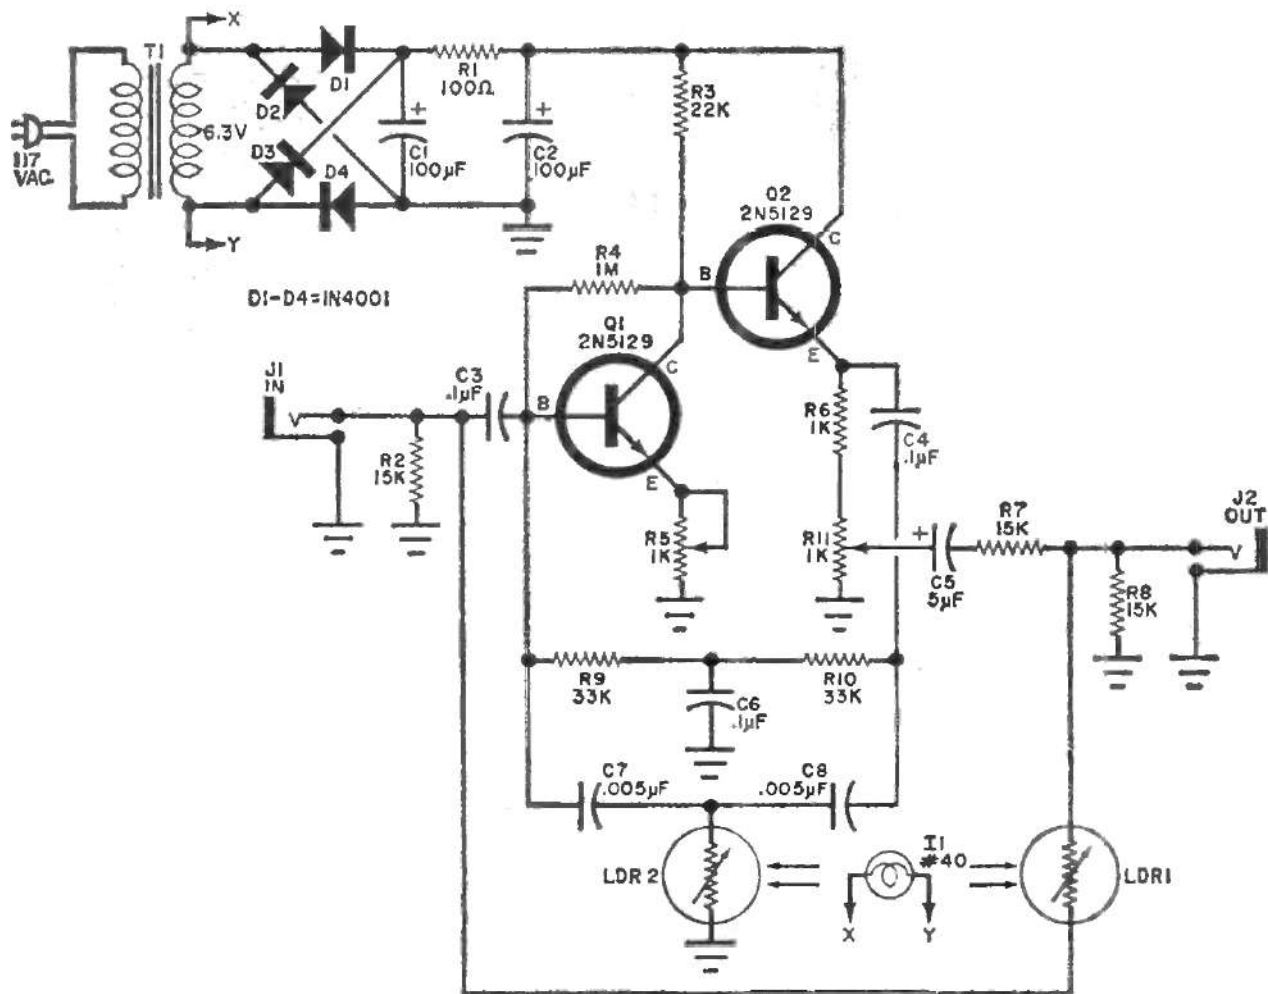
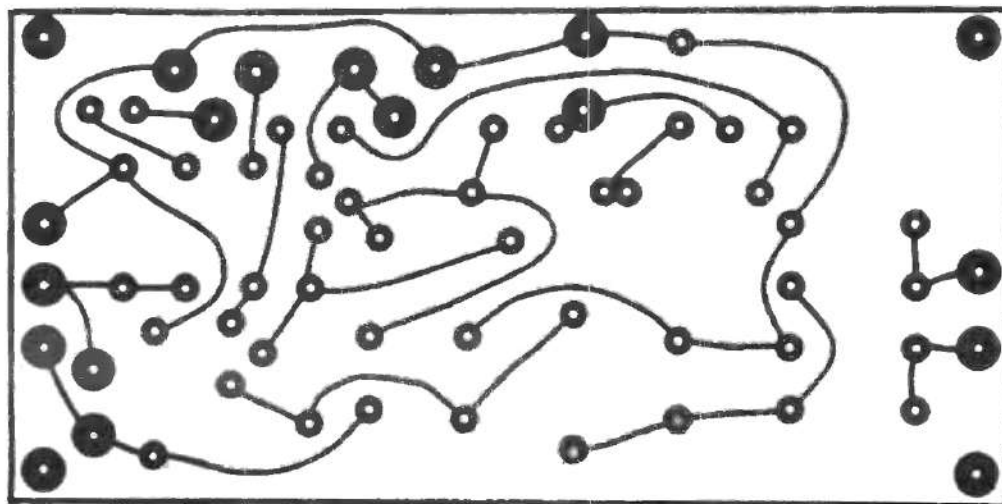

Fig. 1. The circuit is a variable-frequency, narrow-band amplifier whose gain and center frequency are determined by the amount of light on the LDR's.
Fig. 2. Actual-size foil pattern can be used to make your own circuit board.
**Construction.** The electronic portion of the Waa-Waa is straightforward and follows the schematic shown in Fig. 1. Component layout is not critical and any method of assembly may be used. Use of a printed circuit board lends a professional touch and guarantees correct wiring. You can make your own board using the foil pattern shown in Fig. 2 or you
Wire the system according to Fig. 1, making sure that the photoresistors are properly installed. Install the wooden foot pedal temporarily, using the hinge screws to hold it. Hold the light mask against the bottom surface of the pedal with the angled portion covering LDR2. When the pedal is depressed, the mask must slide cleanly between the lamp and the photoresistors. Put screws through the slotted holes in the light mask to position it laterally but leave it able to move up and down on the pedal.